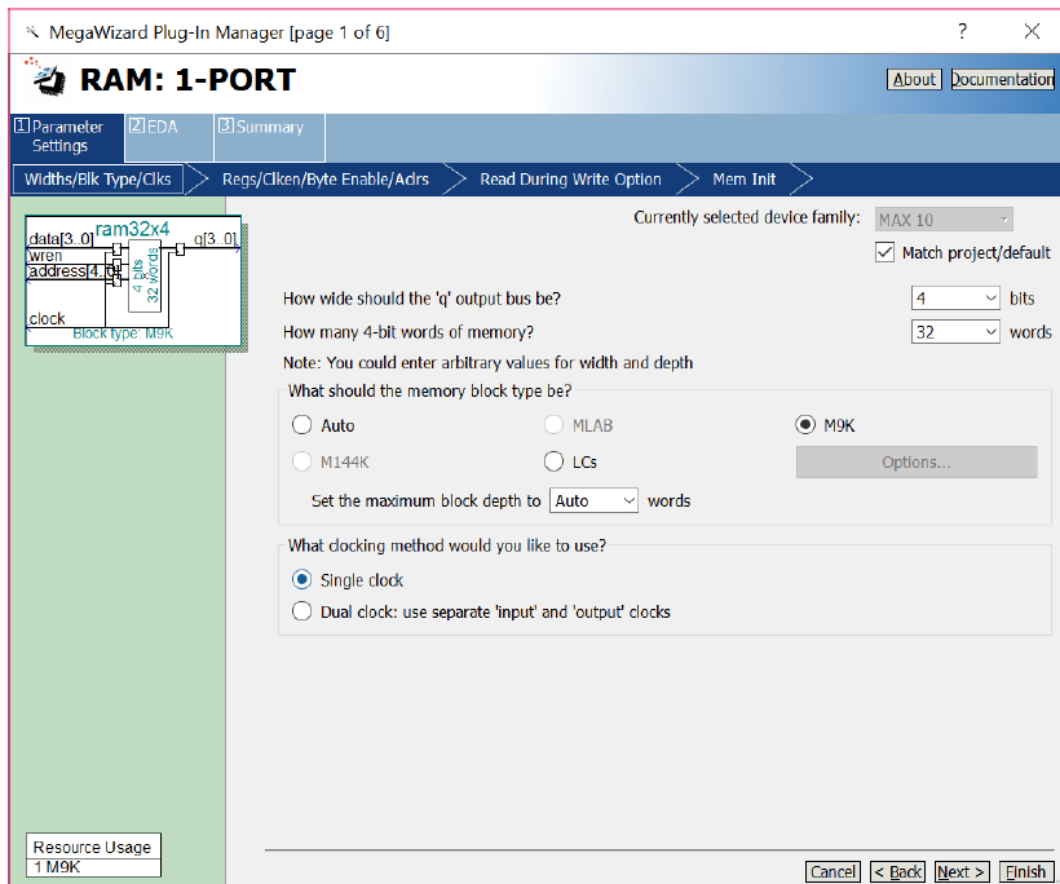

Figure 2 Configuring the size of the memory module.
2. To open the IP Catalog in the Quartus software click on Tools > IP Catalog. In the IP Catalog window choose the RAM: 1-PORT module, which is found under the Basic Functions > On Chip Memory category. Select VHDL as the type of output file to create, give the file the name ram32x4.vhd, and click OK. As shown in Figure 2 specify a memory size of 32 four-bit words.